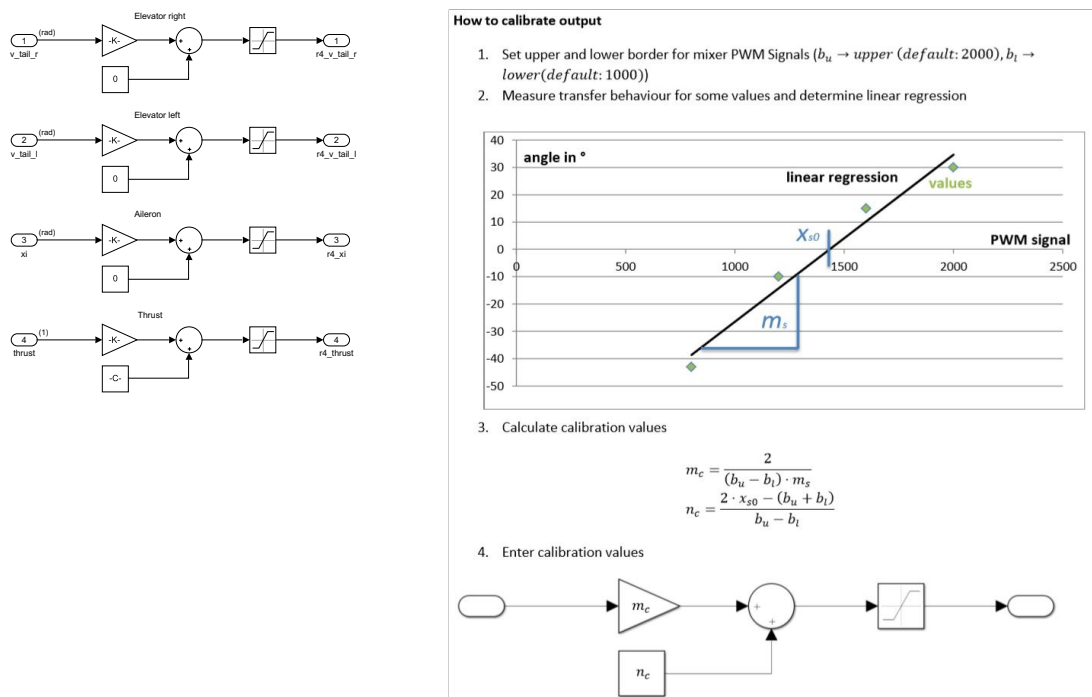

Figure 24: Subsystem Output\_Calibration.
**Output\_Calibration Subsystem:** This subsystem (see Fig. 24) shall stay the last subsystem for calibrating the outputs. A short description of how to calibrate outputs can be found inside the subsystem. The calibration is needed to set the null position in line with the airfoil camber line. At least one further position needs to be measured to calibrate the deflection of flight control surfaces. In the provided UAXS set, the outputs are pre-calibrated.